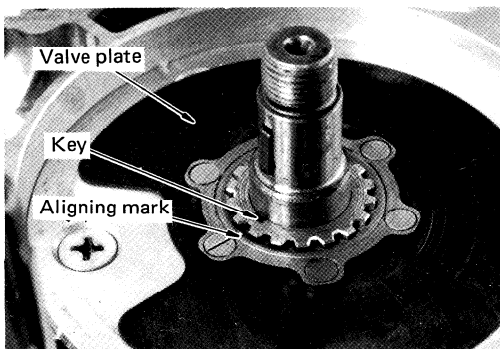

Fig. 5-5-15
10. Install the valve plate so that the timing mark punched on it faces outward and aligns with the valve guide pin set in the crankshaft. (Fig. 5-5-15)